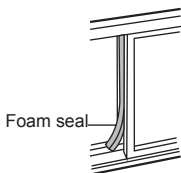

Fig.17
5. Cut the foam seal to an appropriate length and seal the open gap between the top window sash and outer window sash. Shown as in Fig.17.